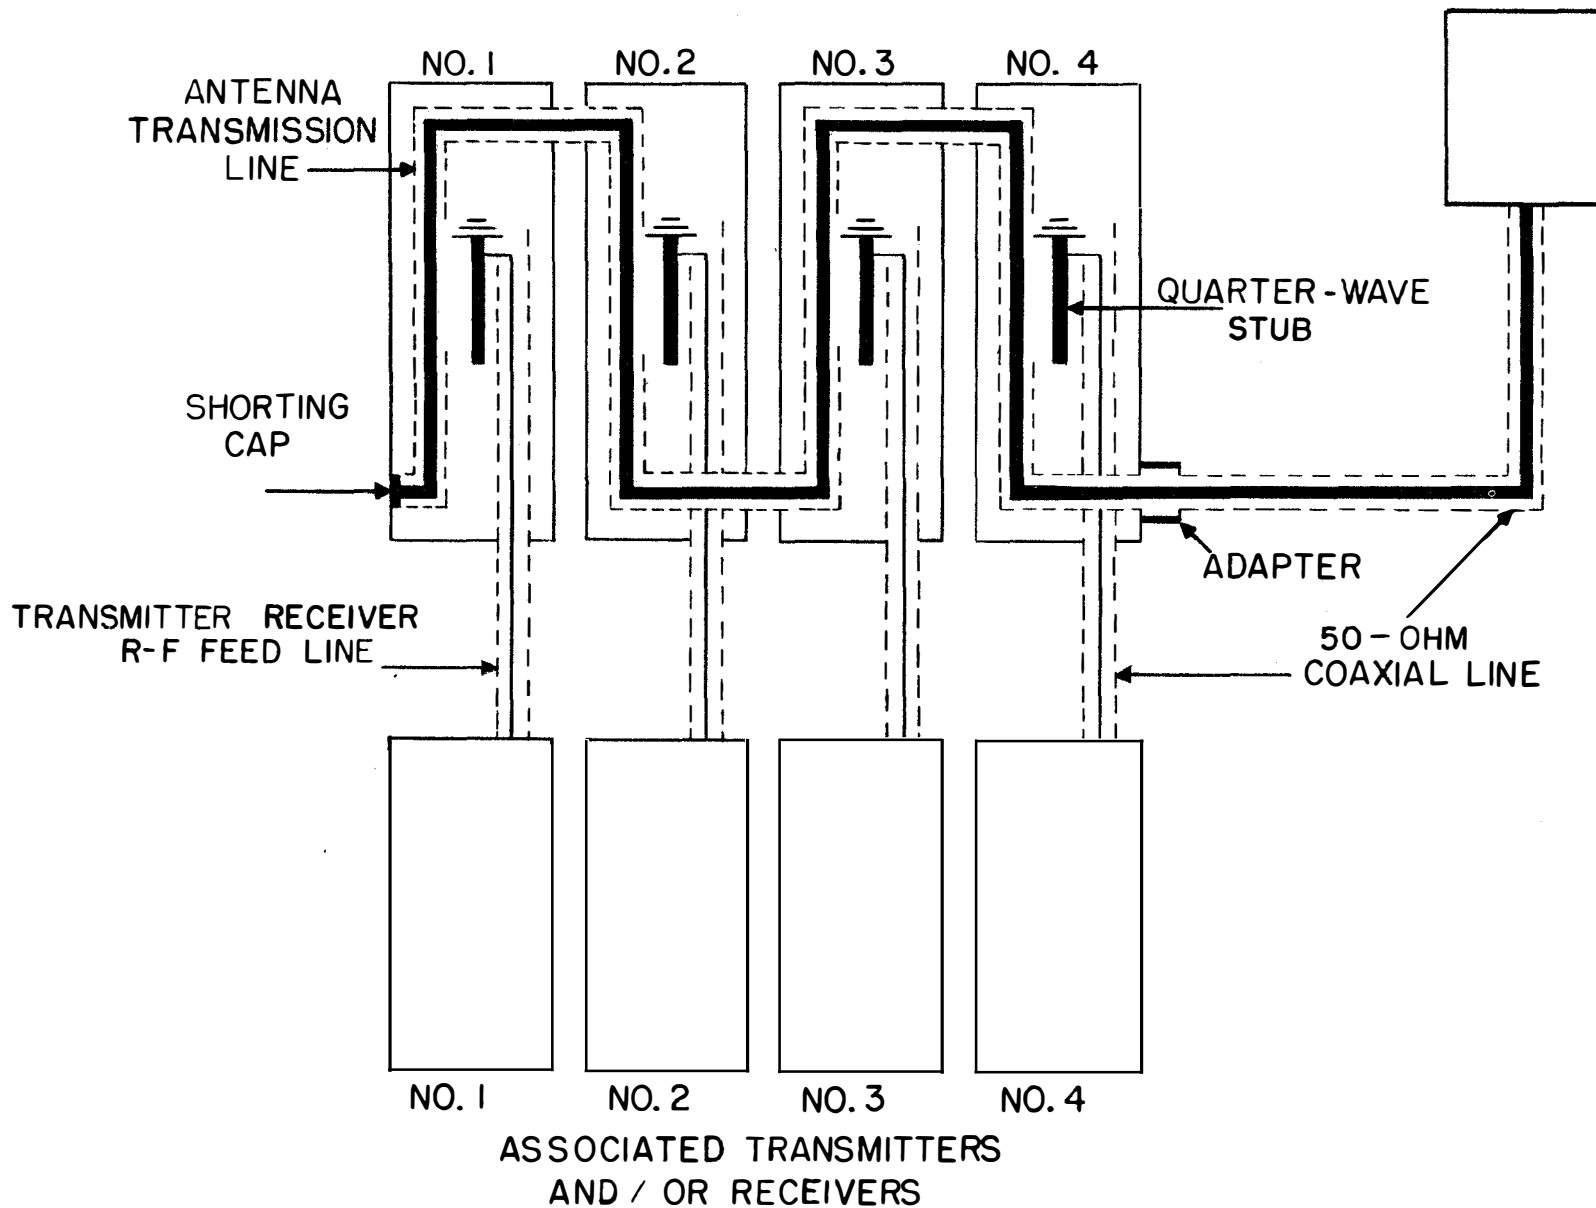

Figure 2-4. Antenna Coupler Group, R.F. Block Diagram
- (1) A section of the main Antenna Transmission Line, cut away lengthwise so as to expose the inner conductor;
- (2) A Quarter-wave Element, adjustable to a quarter wavelength at any frequency in the operating band;
- (3) A movable platform which supports the quarter-wave element and carries it parallel to the cutaway section of Antenna Transmission line;
- (4) A contact spring and an apron extension of the cutaway outer conductor of the Antenna Transmission Line to provide a sliding contact between the platform and the line;
- (5) Quarter-wave element and platform drive gear trains;
- (6) A Transmitter-Receiver telescoping feedline to permit motion of the platform;
- (7) A counter-balancing spring assembly; and
- (8) A Reflectometer, which provides a tuning indication by detecting standing waves in the transmitter-receiver line.
a. ANTENNA TRANSMISSION LINE.--The ends of the cutaway section of the Antenna Transmission Line are provided with elbow fittings so as to bring the line out through the sides of the unit. At one side of unit No. 1, in a Coupler system (see figure 2-4) the elbow is fitted with a shorting plate which short-circuits the Transmission Line. All the other Transmission Line elbows in the system have alternating male and female type fittings which plug together when the units are arranged into a group so that the line is continuous from the short circuit to the antenna. See figure 2-4.